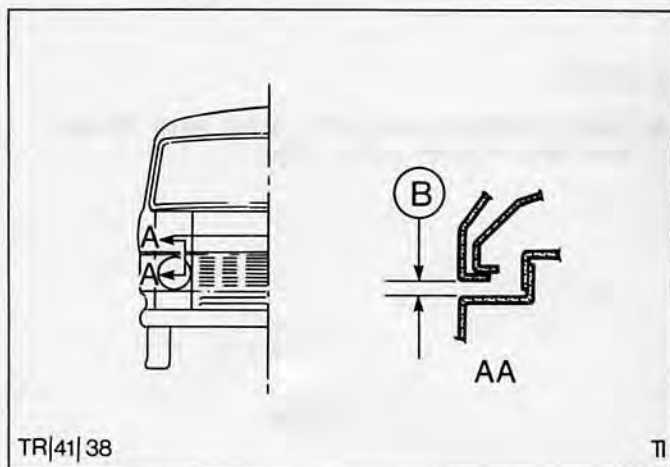

Fig.29. Hood alignment - underside of hood to radiator grille panel
5. Attach hood, leaving bolts finger-tight. Align hood so that clearance with adjacent body parts is even all round and hood top is flush with cowl panel and fenders, Fig.29. Tighten bolts with hood in this position and remove cover.